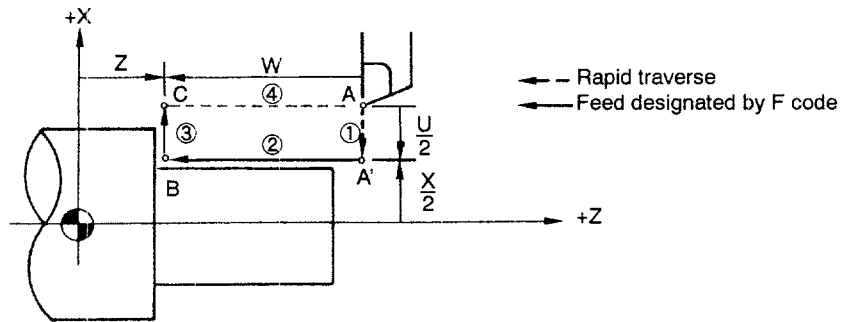

Fig. 4.1 Straight Cutting Cycle
With the commands of “G90 X(U) . . . Z(W) . . . F(E) . . . ;”, straight cutting cycle is executed as indicated by sequence ① to ④ shown in Fig. 4.1.